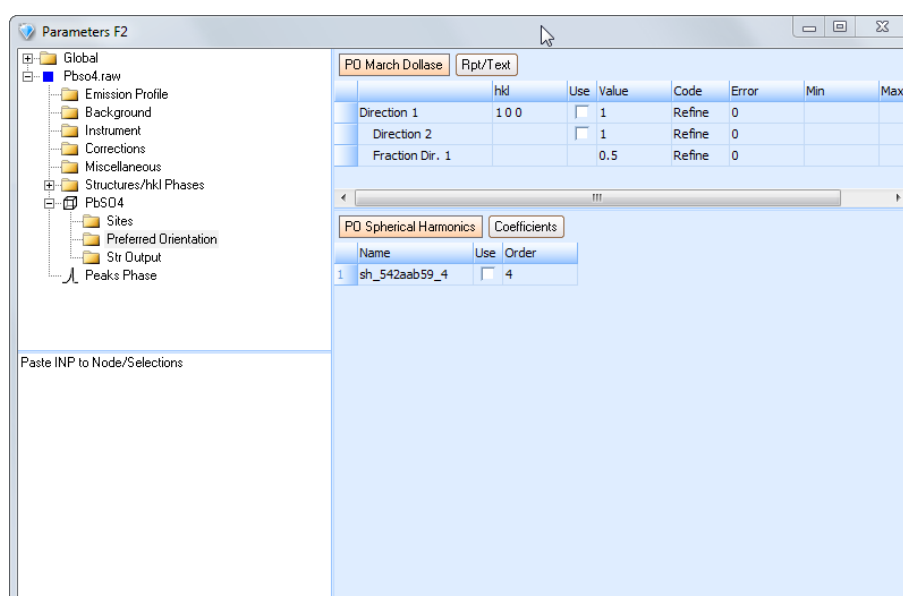

Fig. 4.20: Preferred Orientation item
The *Preferred Orientation* item (Fig. 4.20) offers two models for preferred orientation correction.
1. March-Dollase (March, 1932) preferred orientation correction for up to two directions. hkl's provided in the hkl field needs to be separated with spaces as shown in Fig. 4.20.